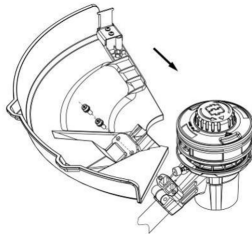

Fig. 5B
2. Lift the trimmer head and face it downward. Align the two mounting holes in the guard with the two assembly holes in the base of the shaft. Make sure that the internal surface of the guard faces towards the trimmer head (Fig. 5B).